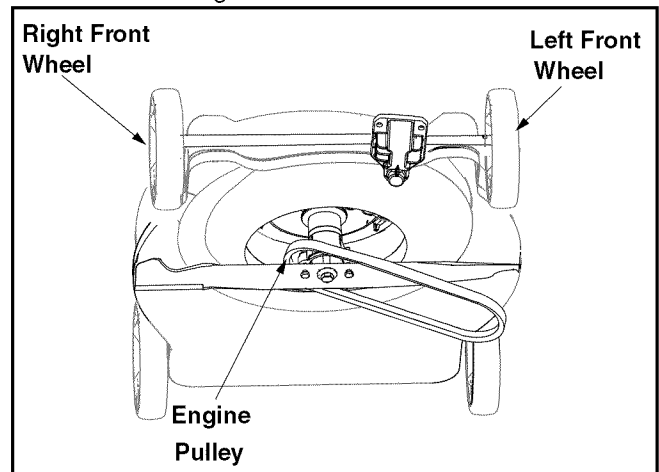

Figure 14
- Slide the belt off the engine pulley and around the blade. See Figure 14.